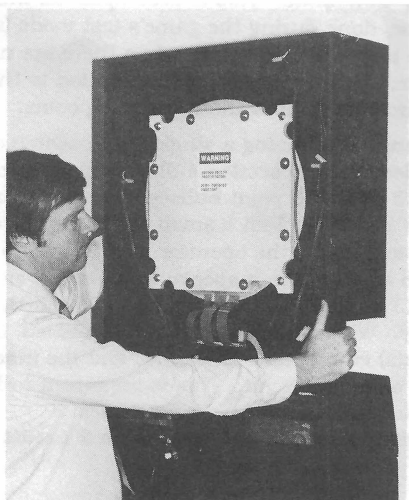
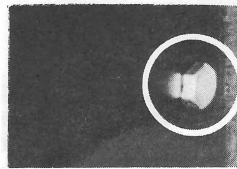

Figure 3. Attaching top assembly to base.
Figure 3A. Hex cap bolt holding top to bottom
- Attach top assembly into base assembly as shown in Fig. 3 using four 1/4-20 carriage bolts and nuts and two 1/4" hex cap bolts (Fig. 3A) and washers. See hardware instructions (37-0134) in your accessory kit for detailed assembly information.